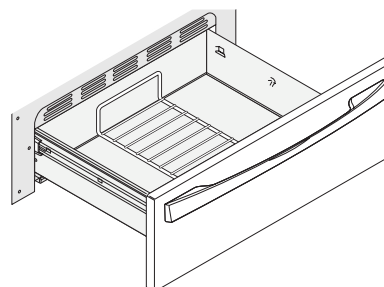

Fig. 2
- In the **downward position** (See Fig. 2) to allow for light weight food items and empty cookware on rack (for example, rolls or pastries and dinner plates).